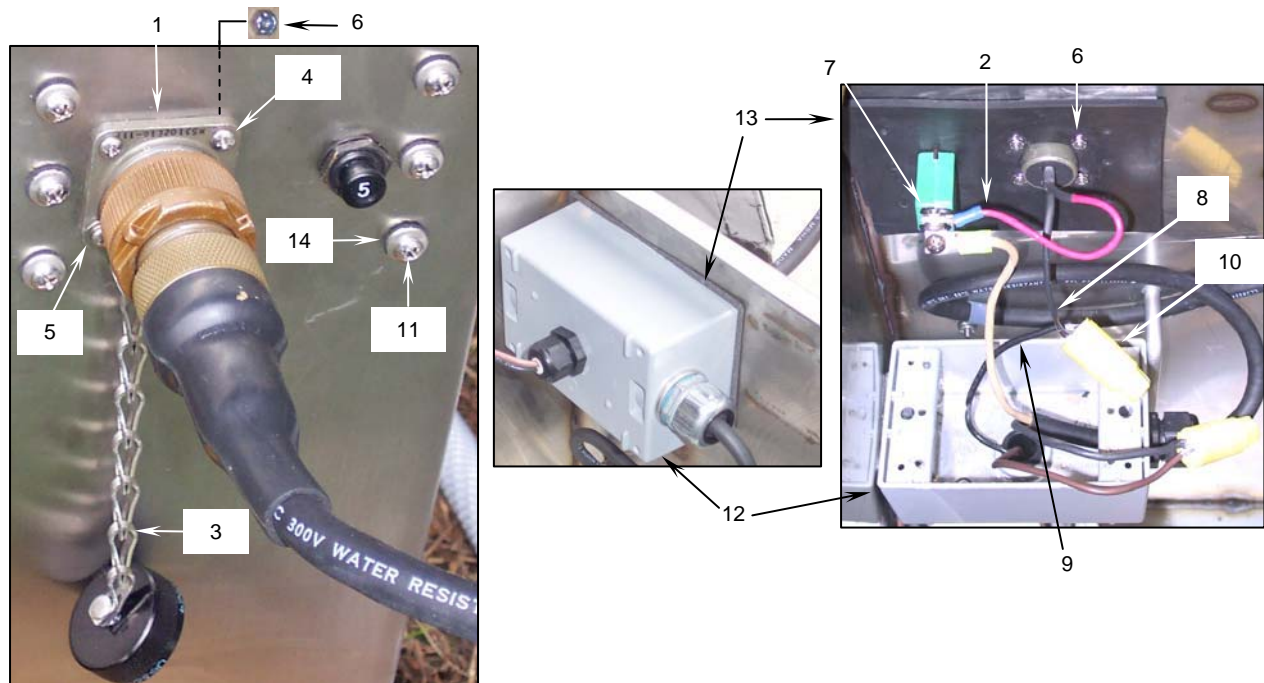

Figure 2. Installing the New Grease Separator Electrical Connector.
- a. Insert the new connector (**Figure 2, Item 1**) into the grease separator enclosure, ensuring that the red connector wire (**Figure 2, Item 2**) is positioned at the top.
When securing the electrical connector to the enclosure, make sure that the end of the chain (**Figure 2, Item 3**) for the connector cap is fitted over the bottom left screw.
- b. Secure the new connector (**Figure 2, Item 1**) and the connector cap chain (**Figure 2, Item 3**) to the enclosure using the four screws (**Figure 2, Item 4**), one flat washer (**Figure 2, Item 5**), and four self-locking nuts (**Figure 2, Item 6**).
- d. Connect the red connector wire (**Figure 2, Item 2**) to the circuit breaker terminal (**Figure 2, Item 7**). Coat the connection with corrosion preventative sealant.
- e. Twist the black connector wire (**Figure 2, Item 8**) together with the black pump wire (**Figure 2, Item 9**) and secure with a new watertight wire nut (**Figure 2, Item 10**).
- f. Apply sealing compound to the threads of the six machine screws (**Figure 2, Item 11**).
- g. Position the weatherproof box (**Figure 2, Item 12**) on the gasket (**Figure 2, Item 13**) and the wall of the grease separator and secure with the six sealing washers (**Figure 2, Item 14**) and machine screws (**Figure 2, Item 11**).